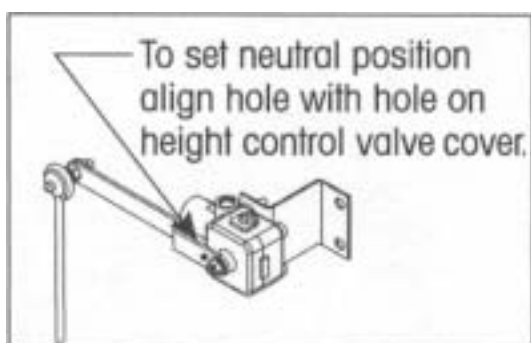

Figure 5.3
7. Use a 1/8" wooden dowel rod (golf tee) to set the neutral position for the height control valve by aligning hole in leveling arm with hole in control valve cover, as shown in **Figure 5.3**. Do **NOT** use a metal rod or nail, as this may cause damage to the height control valve.